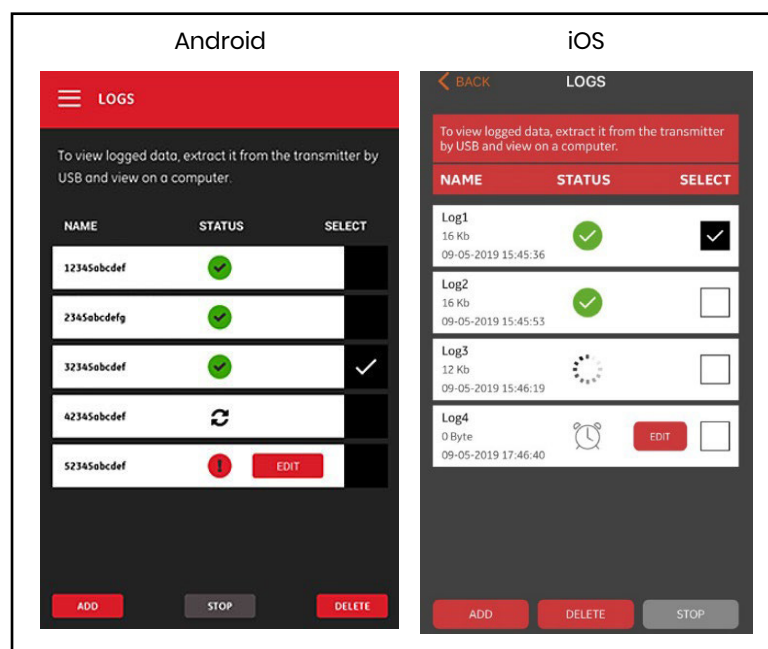

Figure 115: LOGS Main Menu
In the LOGS main menu (see *Figure 115* below), all existing logs and their current status are listed. Each listed log may be edited, stopped or deleted, depending on their current status.
1. On the LOGS main menu (see *Figure 115 on page 85*), click in the SELECT column to the right of the log you wish to delete.
1. On the LOGS main menu (see *Figure 115 on page 85*), click in the SELECT column to the right of the log you wish to stop.
1. On the LOGS main menu (see *Figure 115 on page 85*), click in the SELECT column to the right of the log you wish to edit.